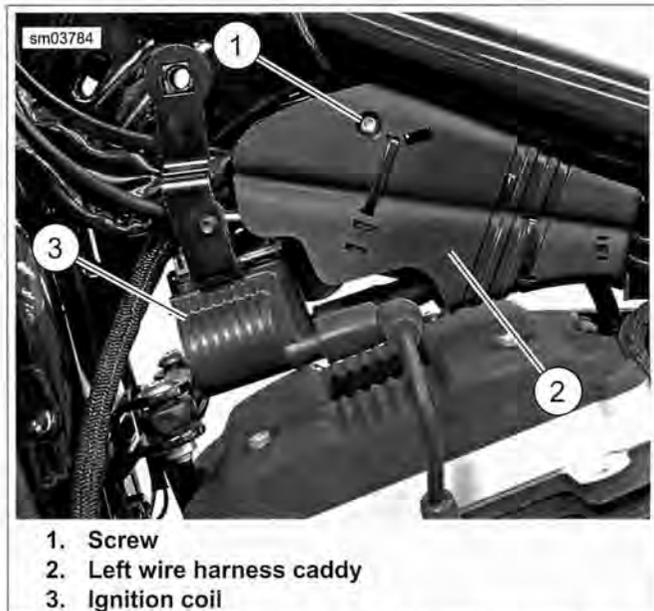

Figure 6-36. Ignition Coil and Left Wire Harness Caddy: XL Models
5. **XL Models:** See Figure 6-36. Remove screw (1) securing left wire harness caddy (2) to right wire harness caddy. See 6.29 ELECTRICAL CADDIES. Carefully disengage left wire harness caddy and pull away from frame backbone.
8. **XL Models:** See Figure 6-36. Mate left wire harness caddy (2) to right wire harness caddy. Secure with screw (1) and tighten. See 6.29 ELECTRICAL CADDIES.